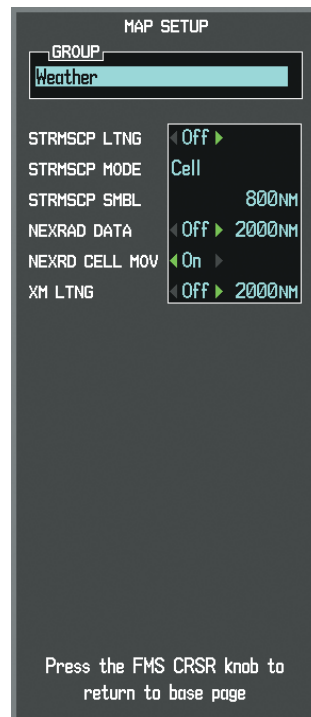

Figure 6-46 Map Setup Menu
- 3) Turn the small **FMS** Knob to display the group selection window. Turn the small **FMS** Knob to select 'Weather' (Figure 6-46), and press the **ENT** Key.
The following options are available (Figure 6-46):